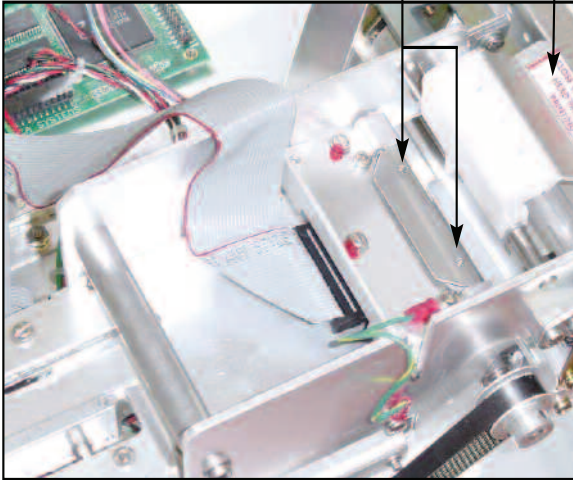

Figure 9a - Print Head removal
There are two pressure adjustment set screws (10-32 x 1/8) located in the spring plate above the print head. (See **Figure 9a**) Although these set screws are factory set, the pressure can be adjusted for a variance in paper thickness or to fine tune after a print head has been replaced.
(Please refer to **figures 9a - c**)
3. Lift up the print head release lever (located above the head mounting block) to remove pressure from the thermal head. (see **figure 9a**)